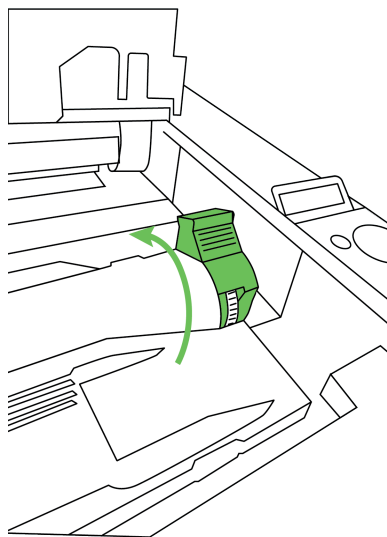

Figure 6-14. Locking the printer toner in place
- b. Flip the blue lever back to lock the toner in place. Remove any manufacturing tape (Figure 6-14).